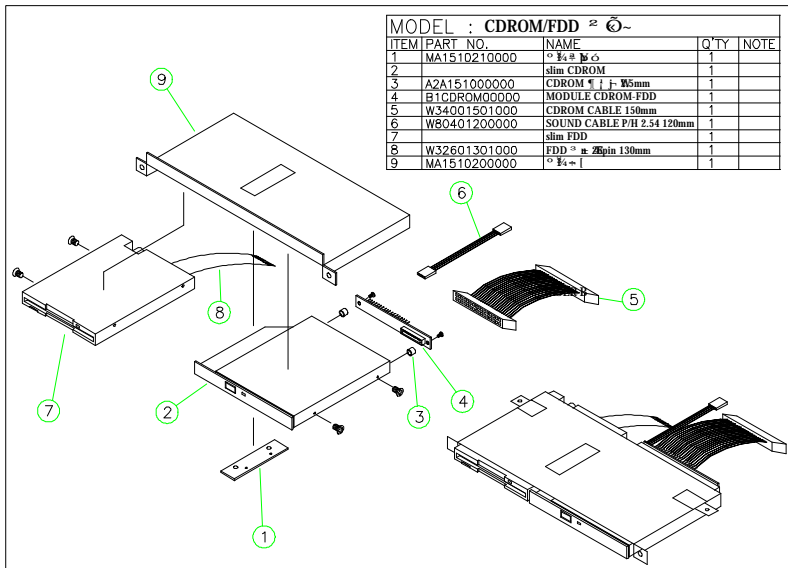

FIGURE 5-10: CD-ROM/FDD MODULE ASSEMBLY
2. Refer to Figure 5-10. Attach the CD-ROM board (4) to the slim CD-ROM (2) and fix them together with 2 screws.